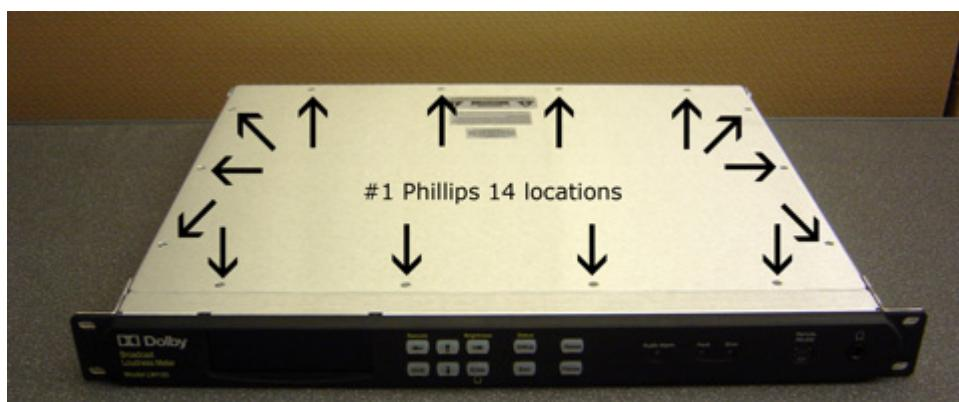

Figure 1 Top Screw Locations
2. Remove 14 Phillips head screws holding the top cover in place. Figure 1 shows the screw locations.